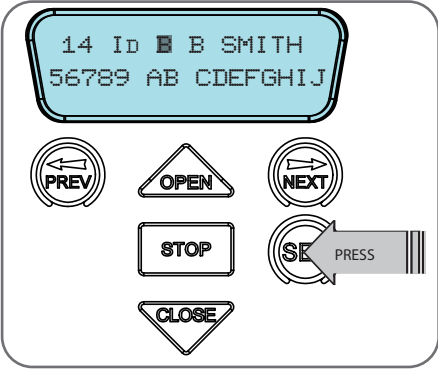

Fig F.6
- e. Press NEXT to reveal the Serial Number (**Fig. F.6**).